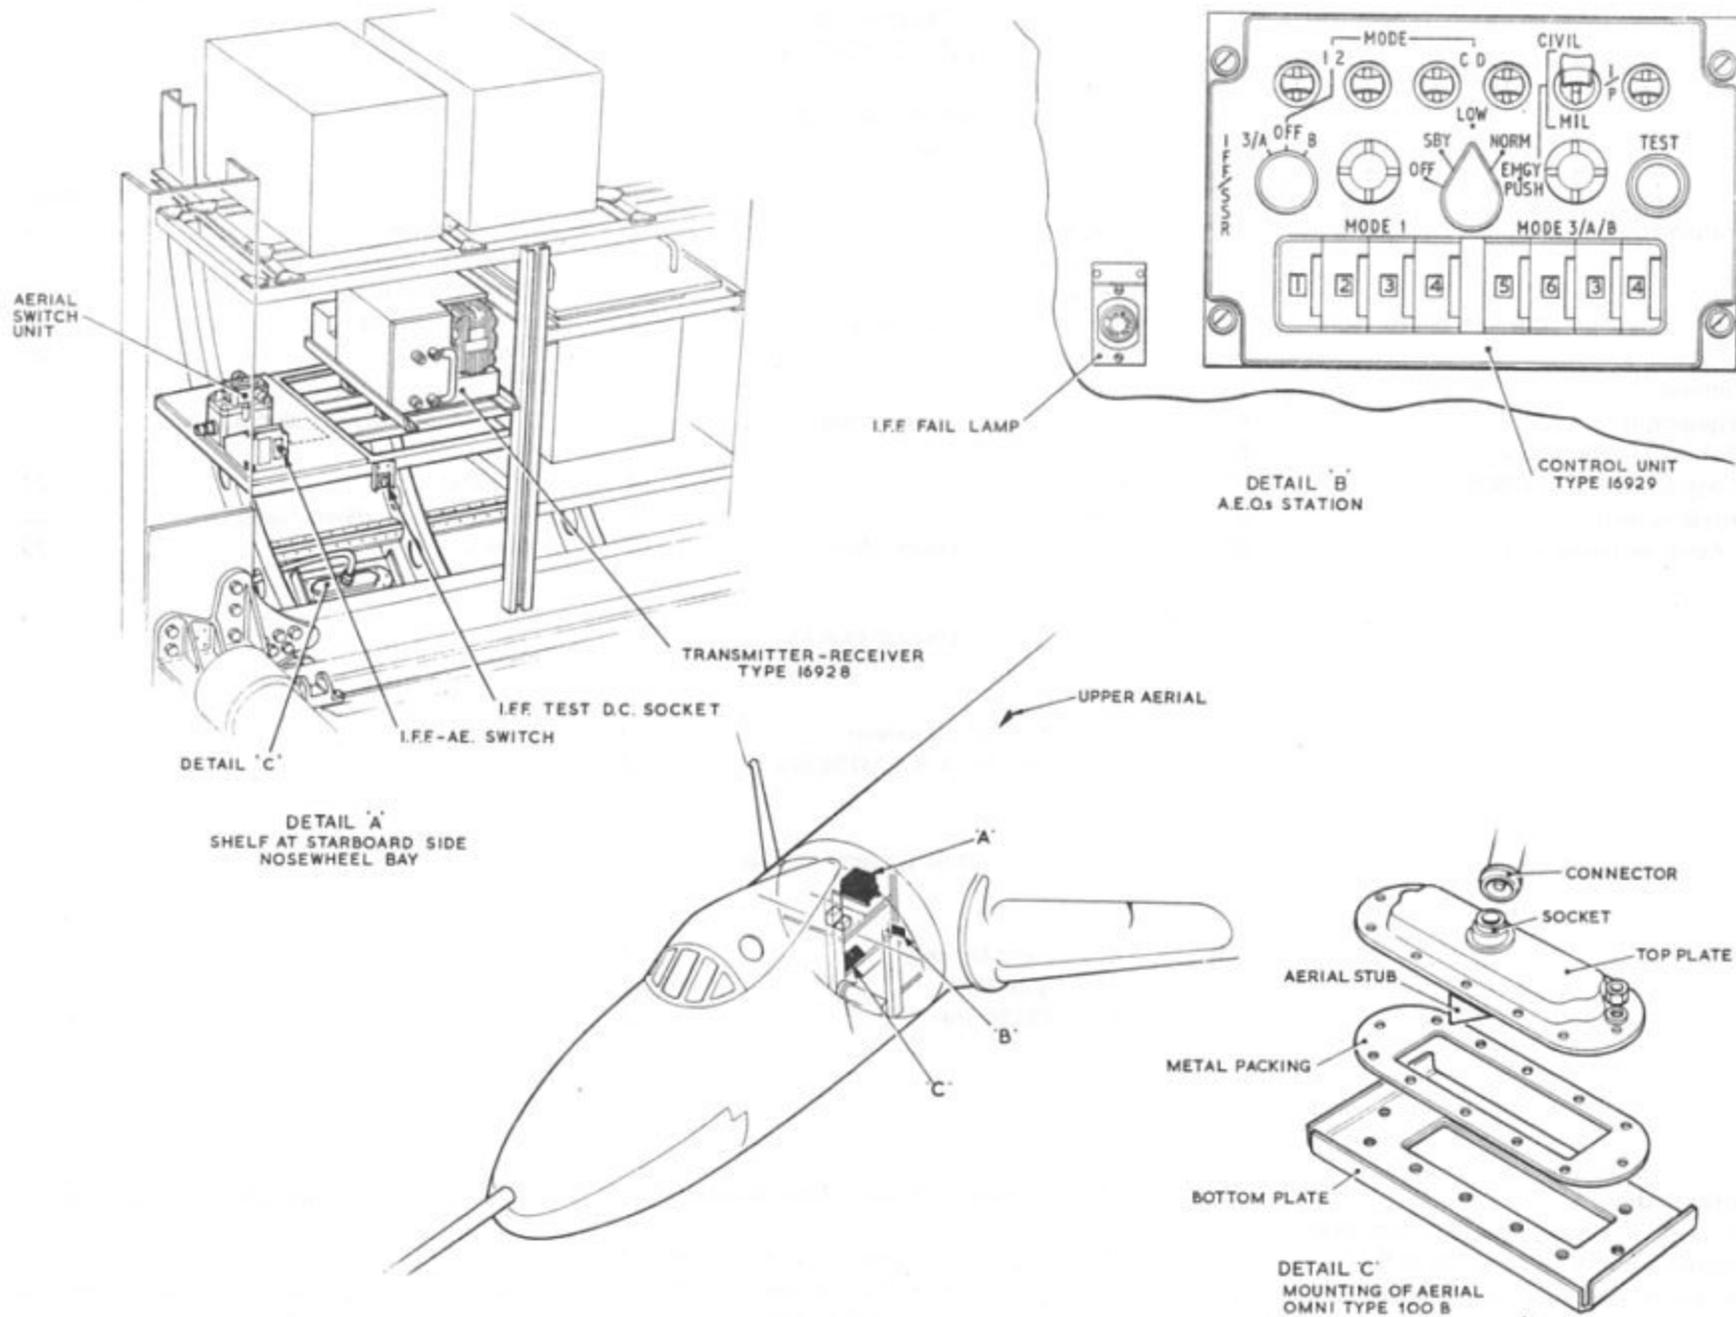

Fig.1 Component location
4. The equipment consists of a transmitter/receiver unit (transponder), two aerials, an aerial switching unit and a control unit as shown in fig.1. In addition there are associated switches, cables and a T.R. mounting tray. The units are described briefly in the following paragraphs. Full details are in A.P.114J-0101-16.
7. The control unit, Type 16929, contains switches and selectors which control the operation of the transponder. The front panel of the unit, which is illuminated by two red lamps, is illustrated in fig.1. Electrical connections are via a rear mounted 55-pole plug. The control unit incorporates a self-test facility to check the transponder.